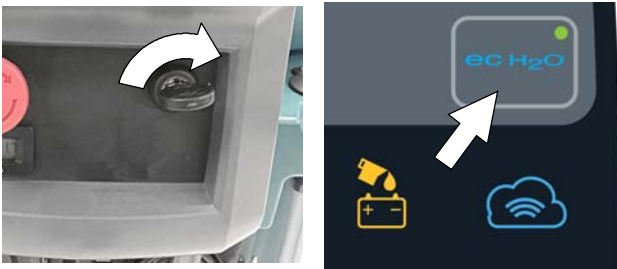

FIG. 36
- ec-H2O models - The ec-H2O system automatically turns on at each key start. A blue ec-H2O indicator appears when machine is equipped with the ec-H2O option. The green LED illuminates when ec-H2O is activated. To turn off the ec-H2O system, press the ec-H2O button. The green LED indicator will disappear (Figure 36).
ATTENTION: When conventional scrubbing with cleaning detergents in solution tank, make sure to turn off the ec-H2O system by pressing the ec-H2O button (Figure 36). If cleaning detergent is accidentally cycled through ec-H2O system, a system fault will occur. To clear fault, drain solution tank, add clear water and operate the ec-H2O system to clear fault. If fault repeats, continue to recycle key until fault clears. See SERVICE INDICATOR CODES for further detail.